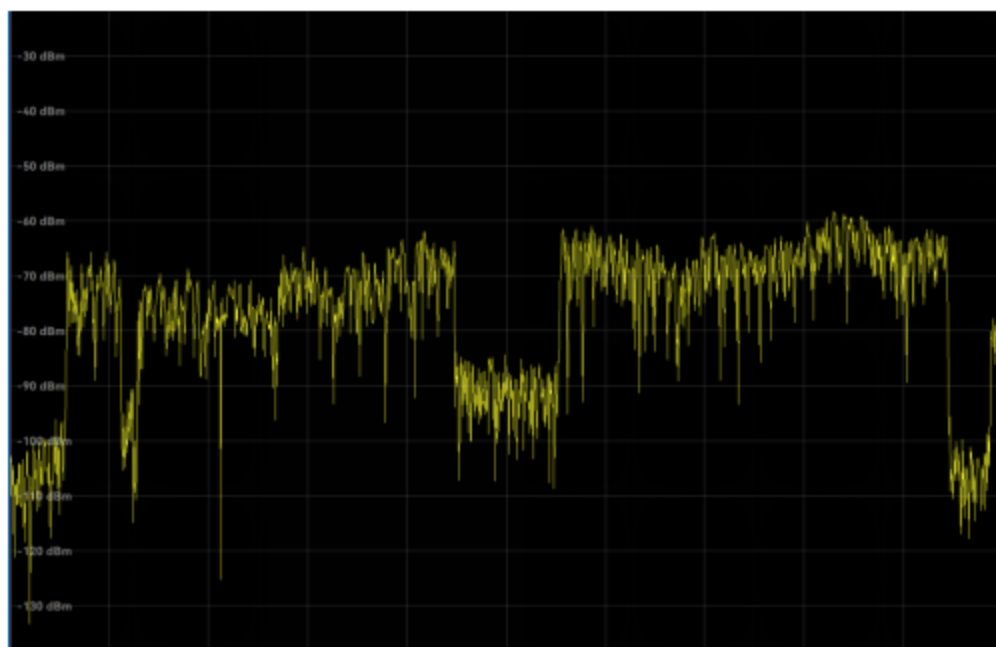

Figure 7.25 4 GTDD interference mode results
- Step 5 Observe the 4 GTDD interference mode, and the test results are shown in Figure 7.25: